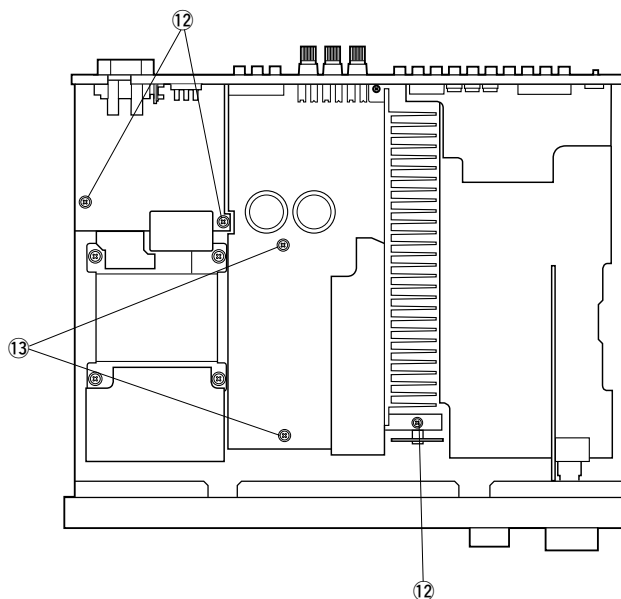

Fig. 6
- c. Remove 5 screws ( ⑫, ⑬ ) indicated in Fig. 6.